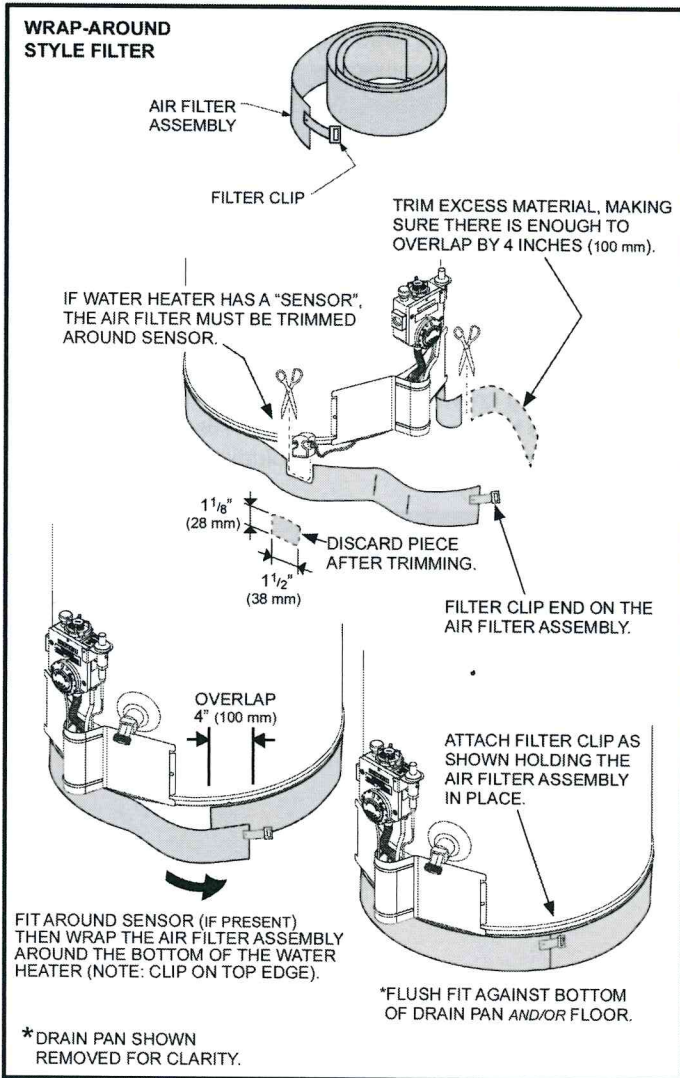

Figure 6
2. **Installation:** Wrap the filter around the base of the water heater. Cut to fit around a sensor if present. Trim excess filter material with scissors but allow filter material to overlap a few inches (see Figure 6).
3. The filter should fit snugly against base of water heater with no gaps. The filter must fit flush against the bottom of the drain pan and/or floor. Hold the filter in place, stretch the filter clip over the overlapped joint and hook in place (see Figure 6).